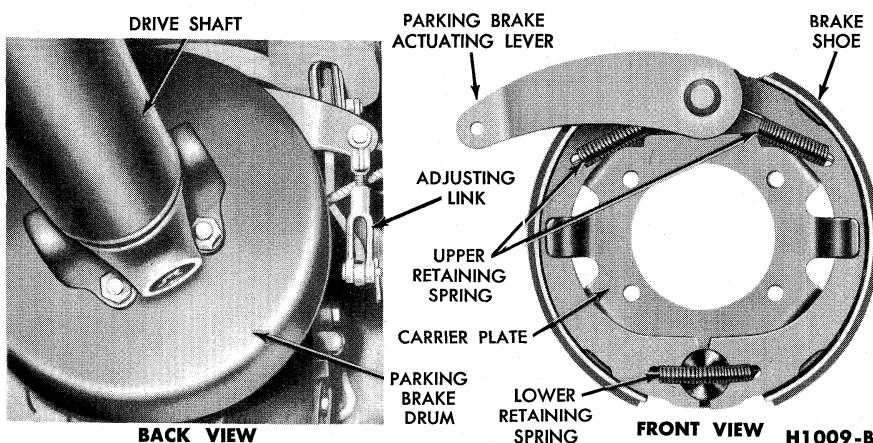

FIG. 2—Shoe-Type Parking Brake—Nine-inch Diameter Drum
2. From under the truck, remove the cotter pin from the parking brake linkage adjusting clevis pin (Fig. 2). Remove the clevis pin.